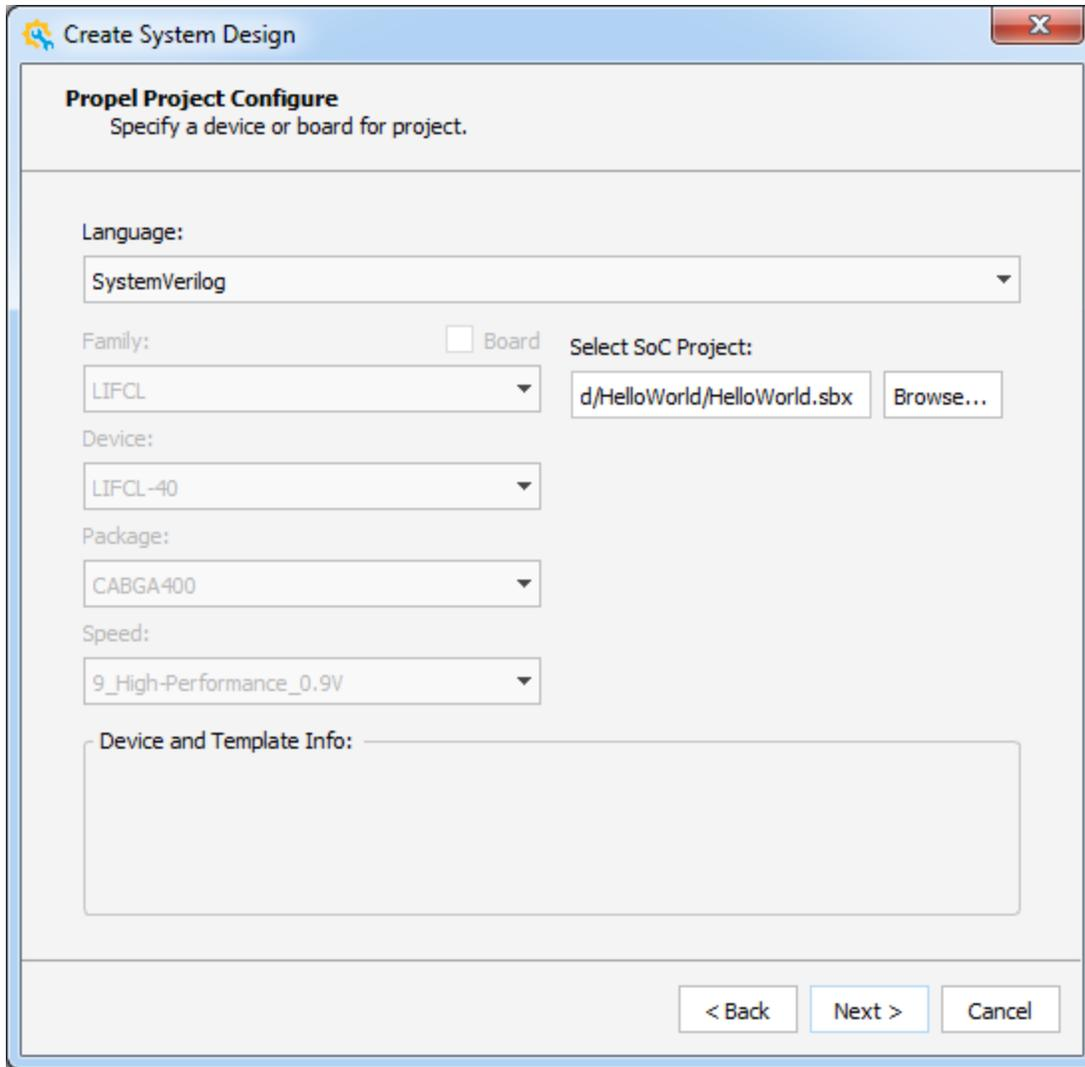

Figure 2.52. Create System Design - Propel Project Configure Wizard
5. Click **Next**. The Propel Project Configure wizard is shown as Figure 2.52.